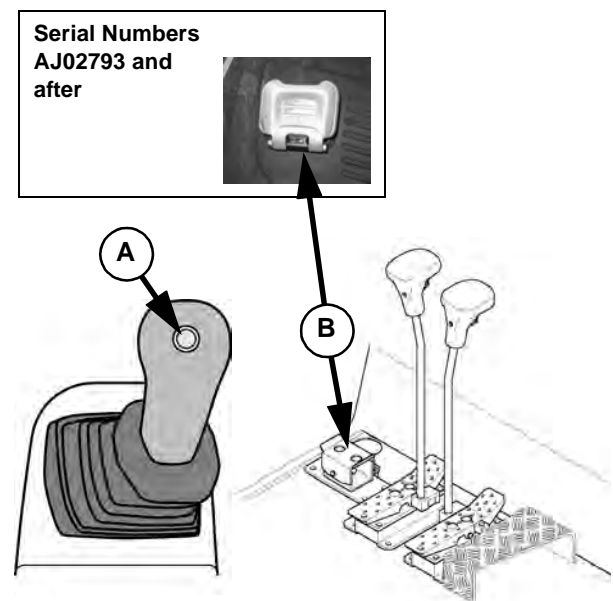

Figure 3-57 Auxiliary Hydraulic Changeover Valve Button/ Boom Swivel Pedal
Note: With proportional auxiliary hydraulic joystick control, the auxiliary hydraulic / changeover valve button (A, Figure 3-57) is not functional. Pedal (B) always controls boom swiveled and does not change to control the auxiliary hydraulics if button (A) is pressed. The auxiliary hydraulics are instead controlled using the thumb and trigger switches installed on the new right joystick.